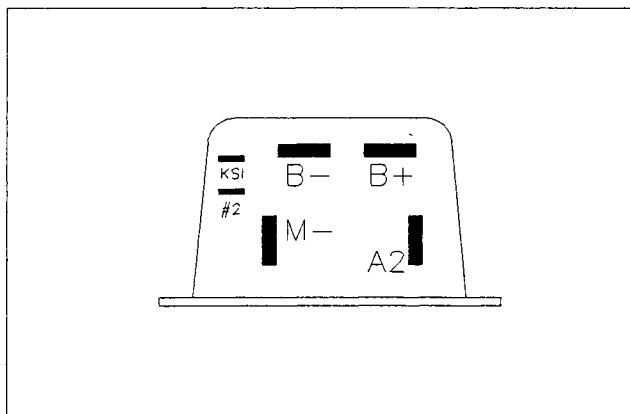

Figure 3-16
- a) Test voltage at PIN #2 on the PMC (see Figure 3-16). If not 6-6.5 V, then go to 'ACCELERATOR MODULE' section.